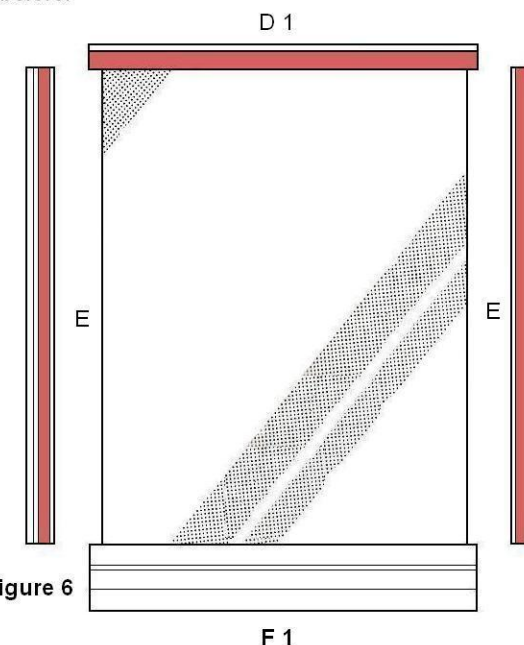

Figure 6
d) Now measure the exposed vertical edges of glass and cut one piece from each length of Section E to fit (Figure 6). Fit as before.